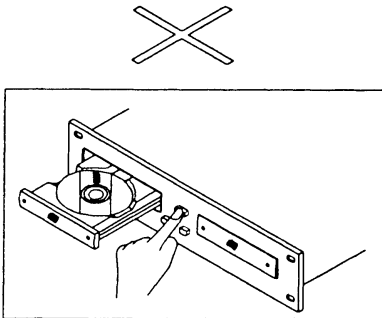

Fig. 18
- When you have finished using the CD player, and before switching off the power, be sure that the disc holder has been closed with the OPEN/CLOSE button (see figures 18 & 19).